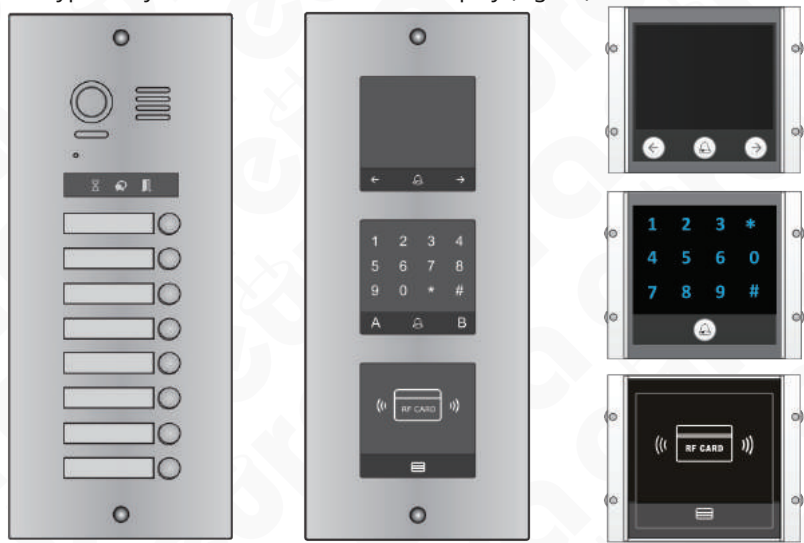

Fig. 43.
3. VDA-98A5 external cassette, with VXA-58A5 additional panel and a set of modules with VXA-64A5 encryptor keyboard and VXA-65A5 LCD display (Fig. 43).